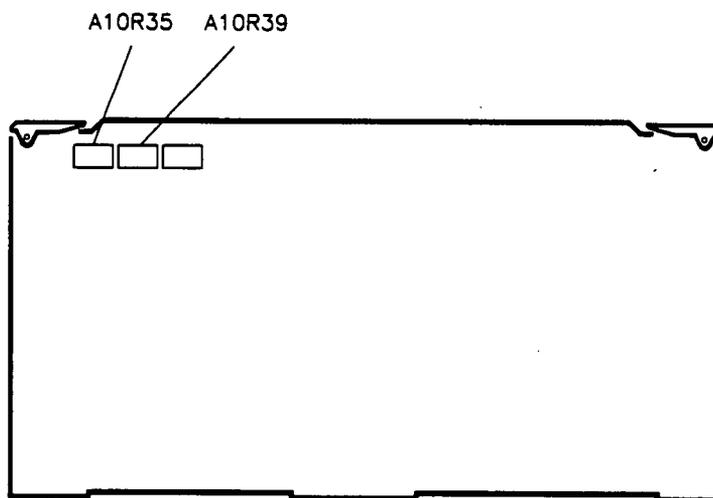

Figure 3-31. A10R35 and A10R39 Locations
15. Adjust A10R35, EXP AM CAL, for a -10 dB power meter reading. See figure 3-31 for the location of A10R35.
21. Adjust A10R39, LIN AM CAL, for a 0.126 mW (4.00% relative) reading. See figure 3-31 for the location of A10R39.